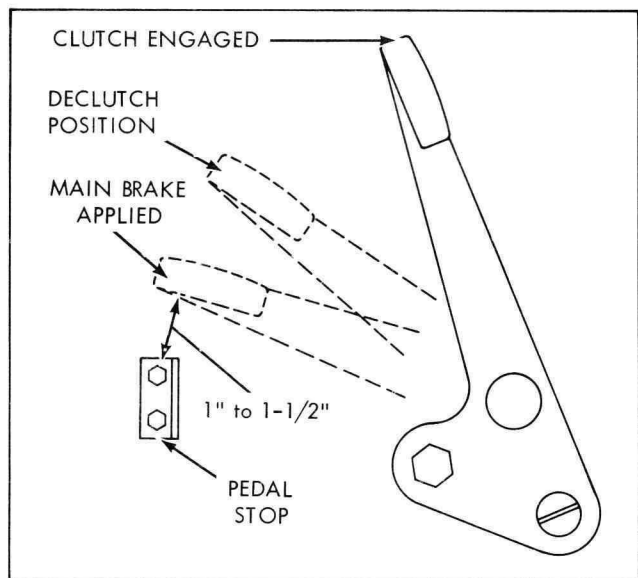

Figure 18
3. Brake shoe must contact drum when CLUTCH-BRAKE pedal is approximately 1" to 1-1/2" from pedal stop on frame. (See Figure 18.)